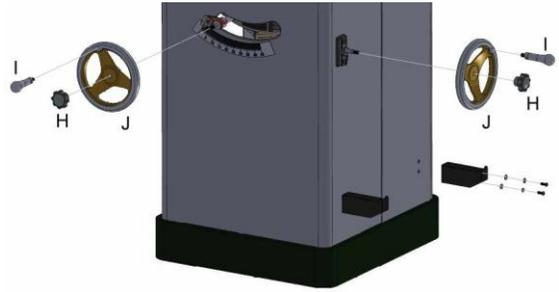

Figure 3
Refer to Figure 3.
1. Install handwheels (J, Figure 3) onto tilting and raising shafts, as shown. Fit the slot of handwheel hub onto roll pin on shaft, then secure by screwing on a locking knob (H).
2. Install handle (I) onto each handwheel, using 14mm wrench on the flat to tighten it.
3. Install storage hooks (F) with two button head screws and washers (HP-4/5/6). The hooks are used to store the Fence when it is not in use.